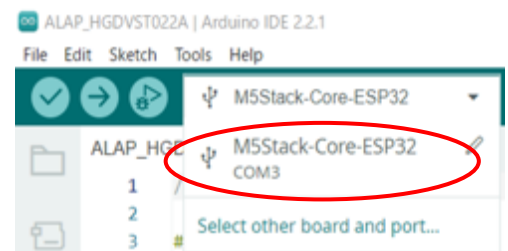

Fig.4
3. Select “M5Stack-Core-ESP32” or “M5Core” in [Select Board] and select COMxx which is connected with M5Stack (Fig.4).